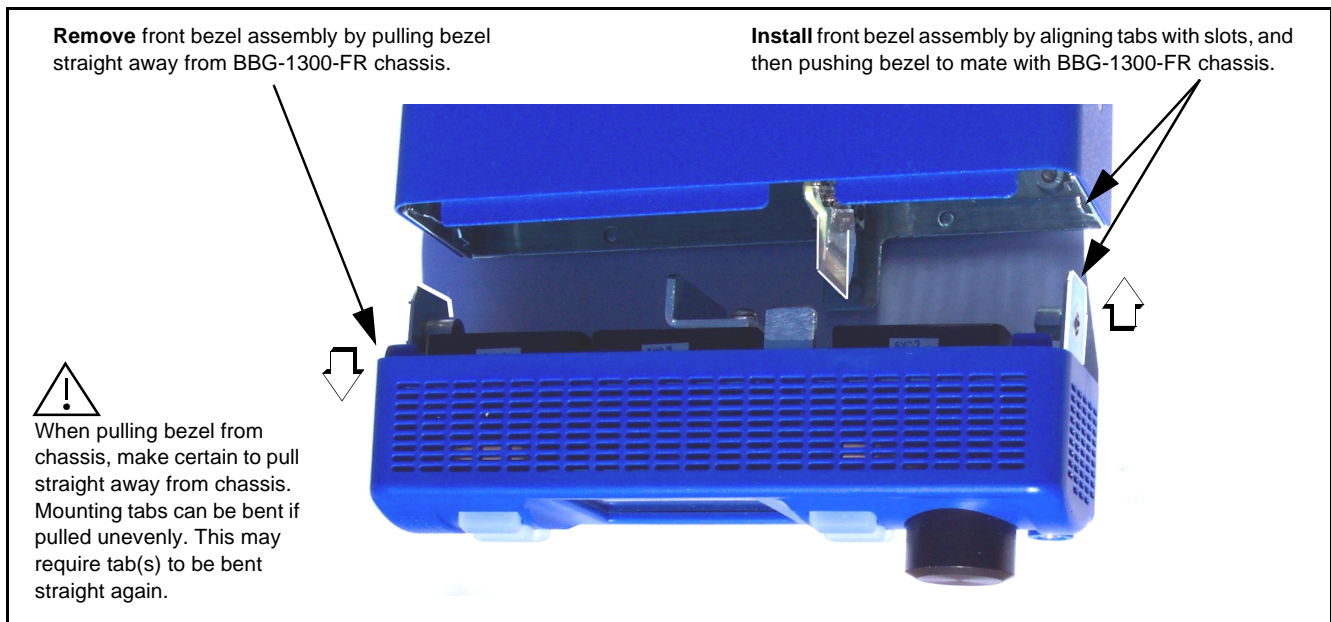

Figure 2-5 Front Bezel Removal/Installation
2. (See Figure 2-5.) While firmly holding BBG-1300-FR chassis with one hand, grasp front bezel assembly and pull front bezel assembly straight away from chassis.